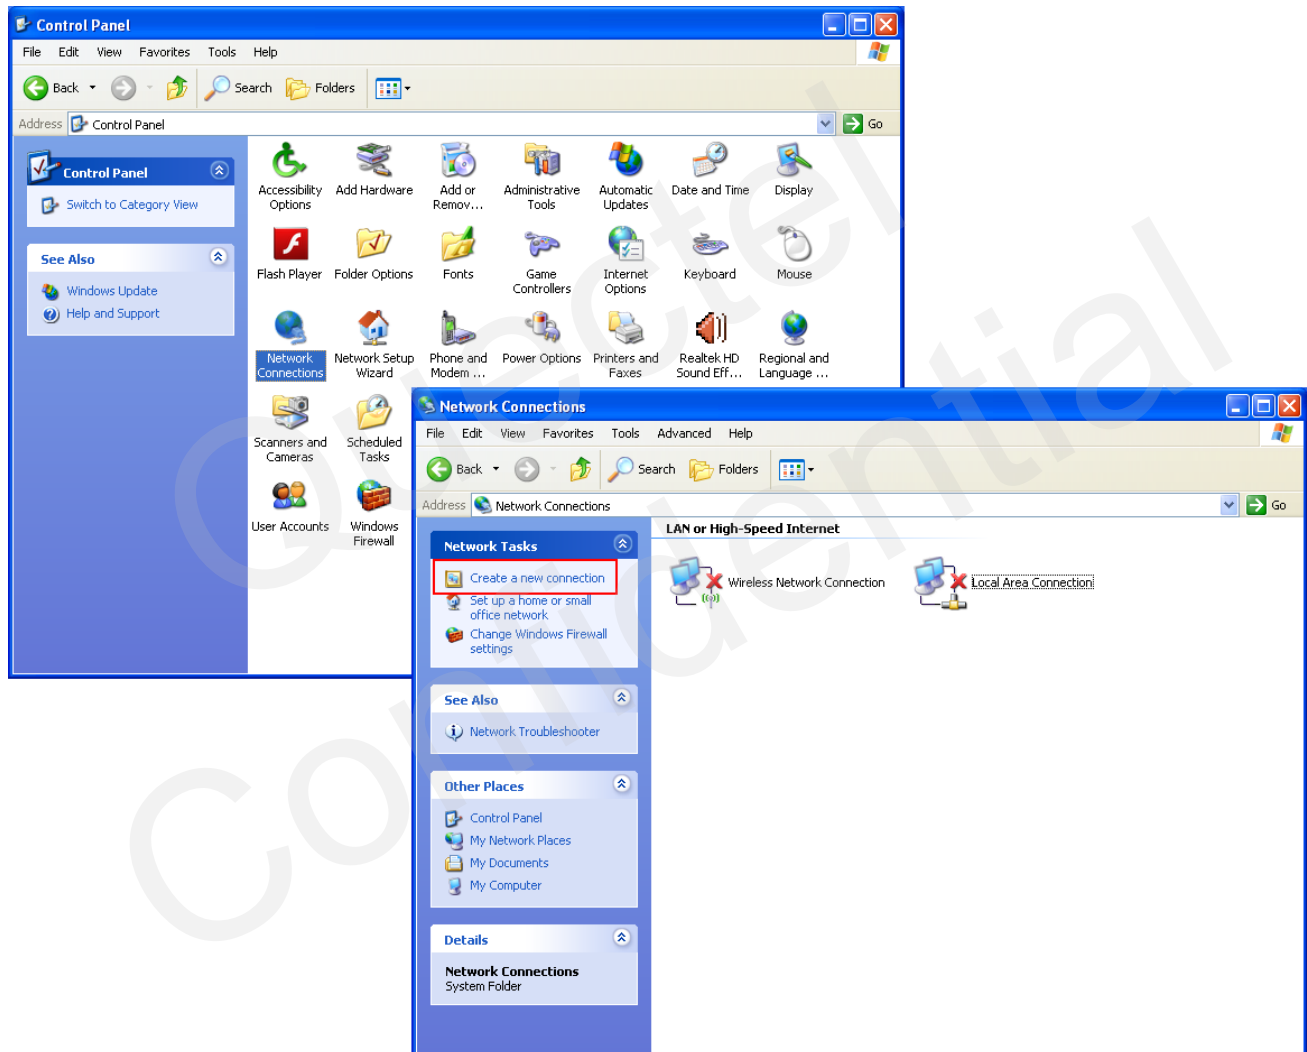

Figure 10: Create a New Connection
1. Open “**Control Panel**” and double click “**Network Connections**”, then click “**Create a new connection**” from the right list of network tasks. Refer to Figure 10.